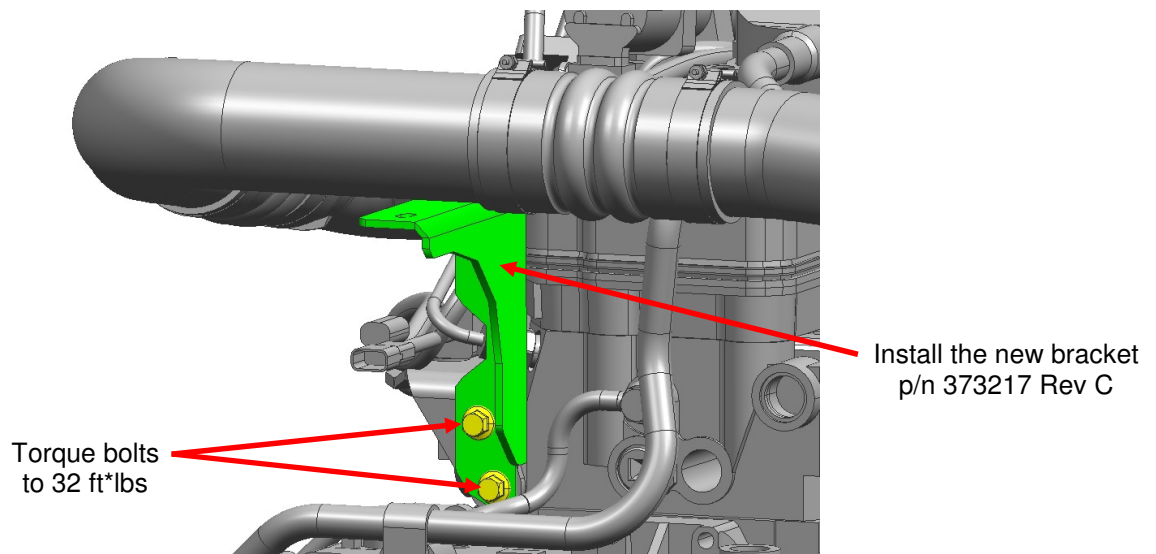

Figure 2: CAC Tube Support Tube Bracket Installation
5. Using the existing bolts (x2) from Step 4 install the new bracket p/n 373217 Rev C in the same mounting holes and orientation as the original bracket, torque bolts to 32 ft*lbs. See Figure 2.